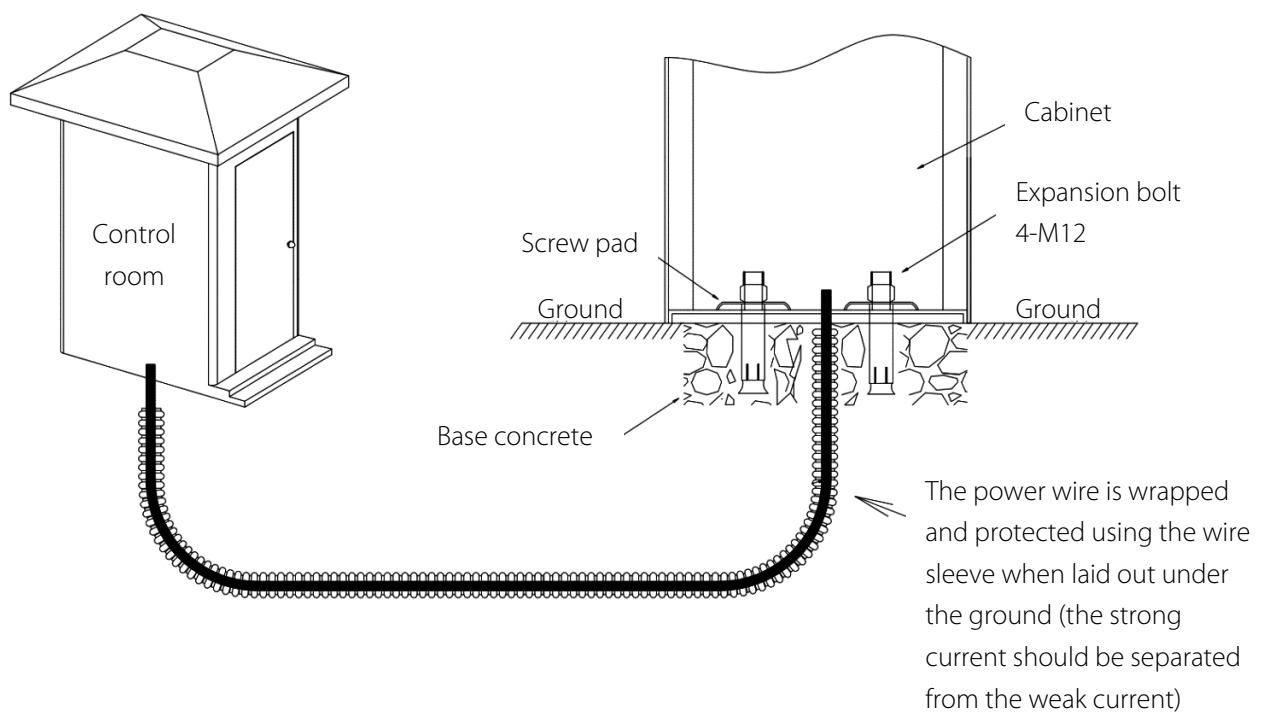

Figure 1-1 Cable embedding
- Use a tool to open a cable tray on the ground, see Figure 1-1.